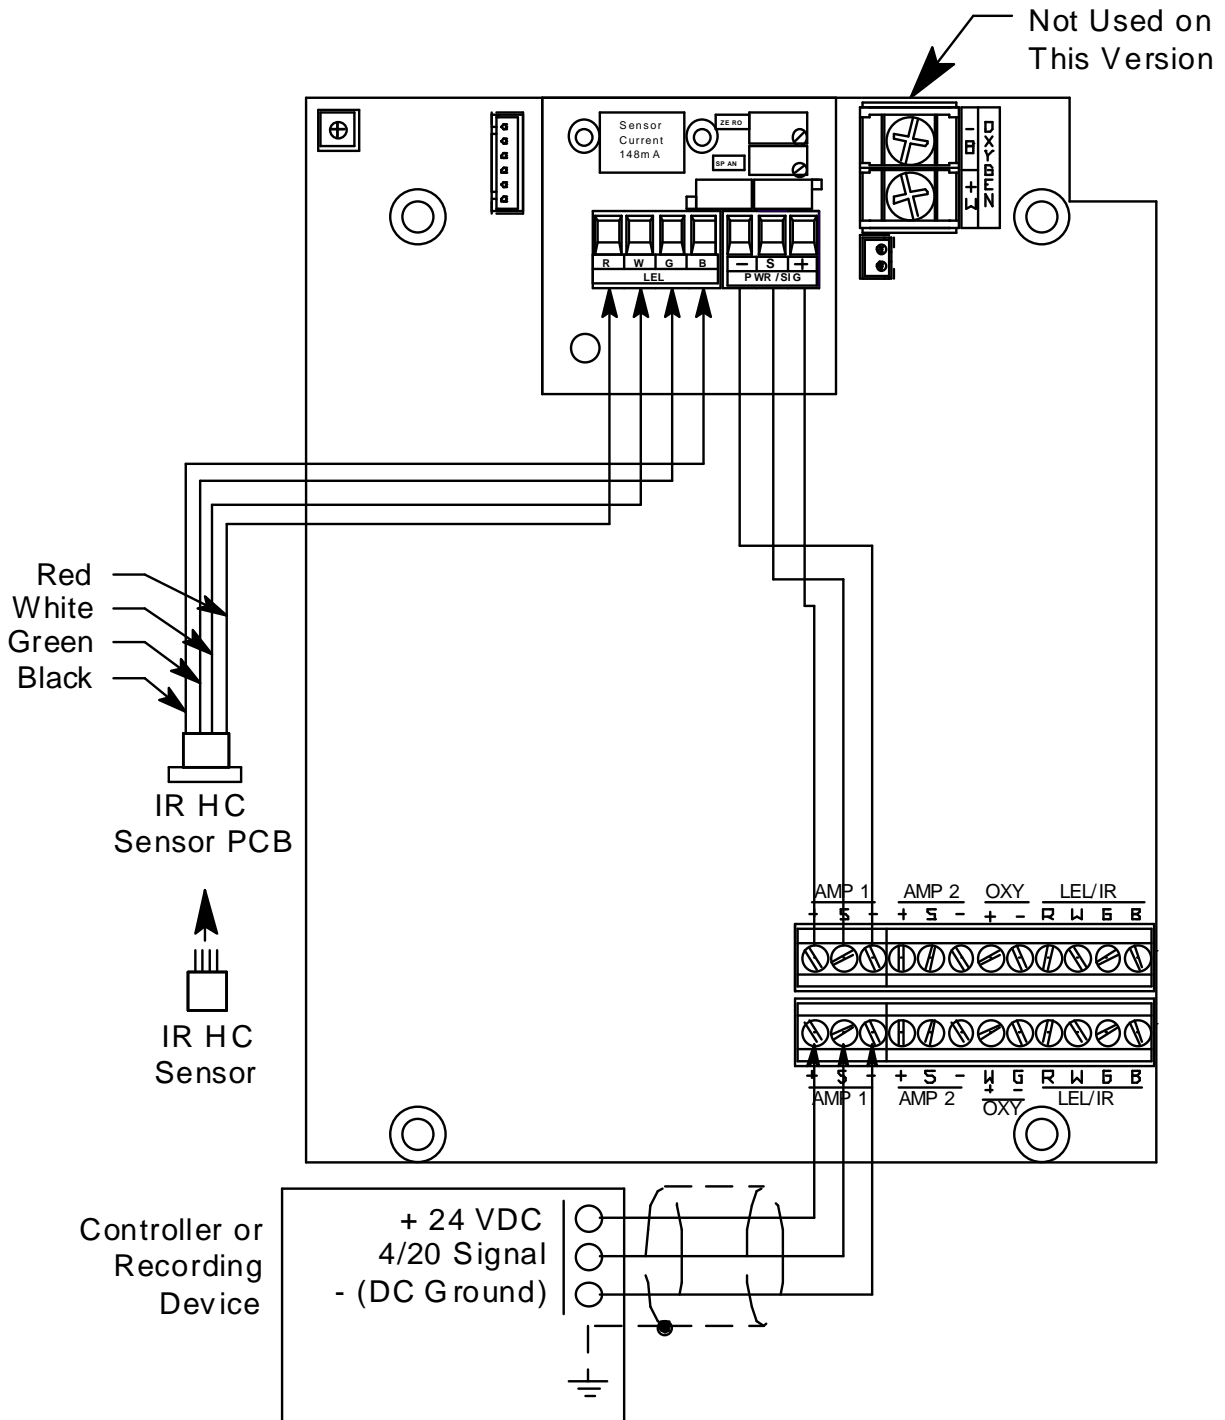

Figure 5: Wiring the Sample-Draw Detector to a Controller
5. Connect the cable to the sample-draw detector’s interconnect terminal strip as shown in Figure 5.
- Connect the wires to the applicable detector/transmitter terminal strip at the controller as shown in Figure 5. Refer to the controller operator's manual and the controller detector head specification sheet for the 35-3001A-01-02 for detector/terminal strip connections specific to the controller.